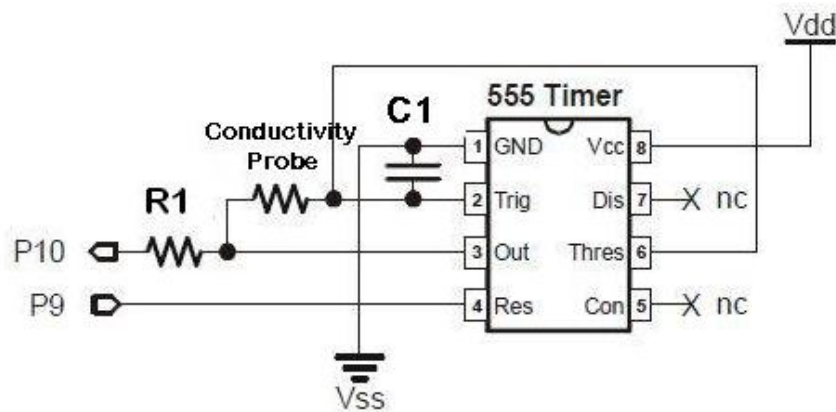

Figure 1. Attachment of the 555 timer to the Board of Education. The conductivity probe is configured as a resistor.
4. Attach the conductivity probe to the Board of Education. Wrap the ends of the jumper wires around the base of the screw head, and space them approximately 1 inch apart. Connect the conductivity probe to the 555 timer as shown in figure 1.